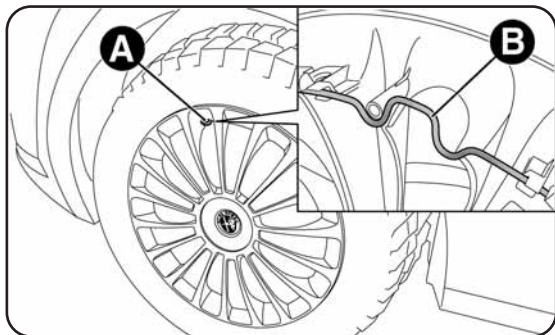
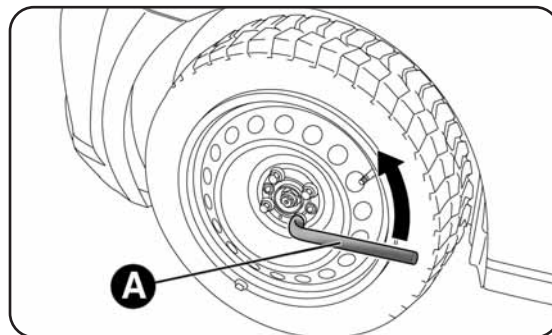
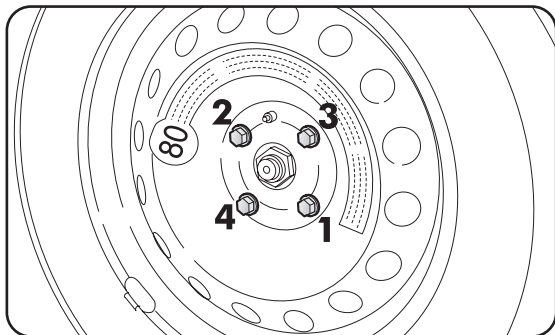

fig. 4
fig. 5
fig. 9
- for versions with steel wheels: insert the screwdriver into opening A-fig. 4 to release clip B retaining the hub cap.
- use wrench A-fig. 5 to loosen the retaining bolts by one turn;
- use wrench A-fig. 5 to fully tighten the retaining bolts;
- use wrench A-fig. 5, to fully tighten the retaining bolts, tightening first one bolt and then the diametrically opposite bolt, following the sequence shown in fig. 9;
- tighten the retaining bolts using wrench A-fig. 4;
- use wrench A-fig. 4 to fully tighten the bolts, following the sequence shown in fig. 9;